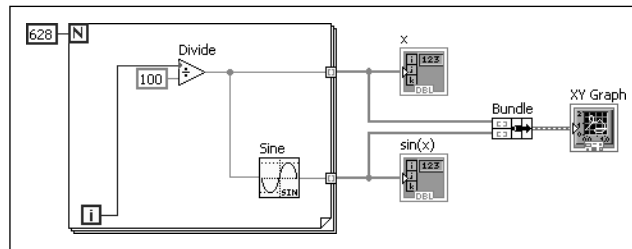
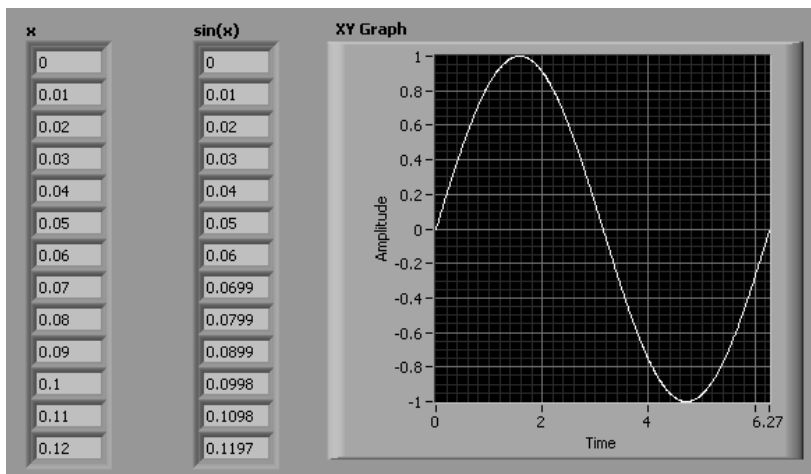

Figure 4.55
Figure 4.56
- A For Loop is an easy way to create an array of calculated values. In the VI shown in Figure 4.55, the loop index is used to create two arrays: x and $\sin(x)$. These are then plotted using an XY Graph as shown in Figure 4.56.